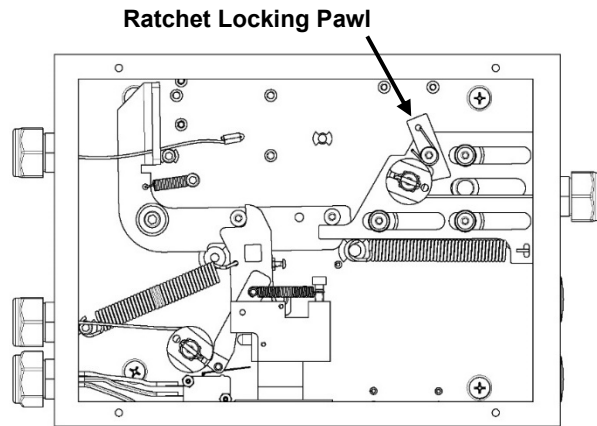

Figure 4-39.
1. Place the 3/8" drive ratchet into the Fusible Link Line Ratchet, turn slightly clockwise to relieve pressure on the Ratchet Locking Pawl. See **Figure 4-39**.